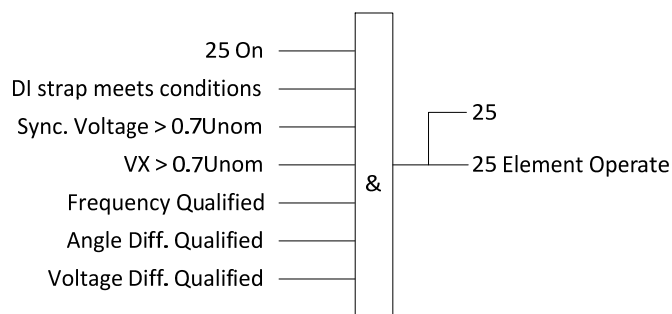

Fig. 3-60 Logic diagram of synchronization check
Synchronization check element (25) can be used for programmable logic. The logic diagram is as shown in Fig. 3-60.
3.1.33. Automatic Re-closing Function (79)